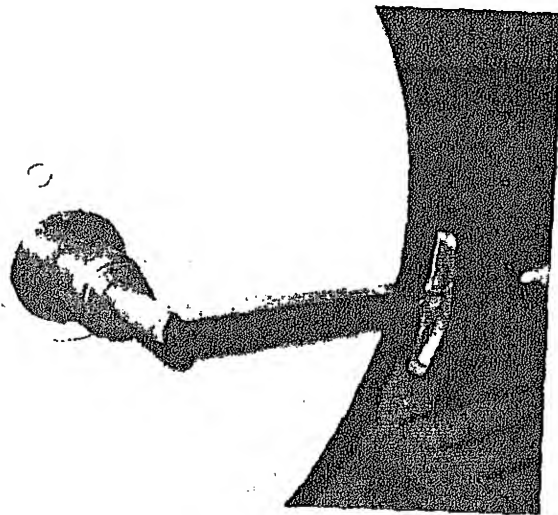

FIGURE 9-108.
g. Working at each end separately, tighten each slotted nut to 200 ft.-lbs. (27.7 kg-m), then retighten to 25 ft.-lbs. (3.5 kg-m), then retighten to 25 ft.-lbs. (6.3 kg-m) or next higher cotter pin (see figure 9-108).
a. Lift axle shaft assembly so it is in the position of the steering yoke (see figure 9-108).